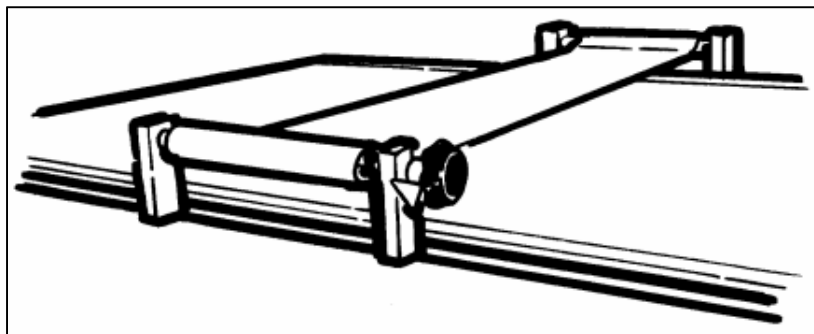

Figure 3-2
- 7 Compression band (accessory, see Figure 3-2)